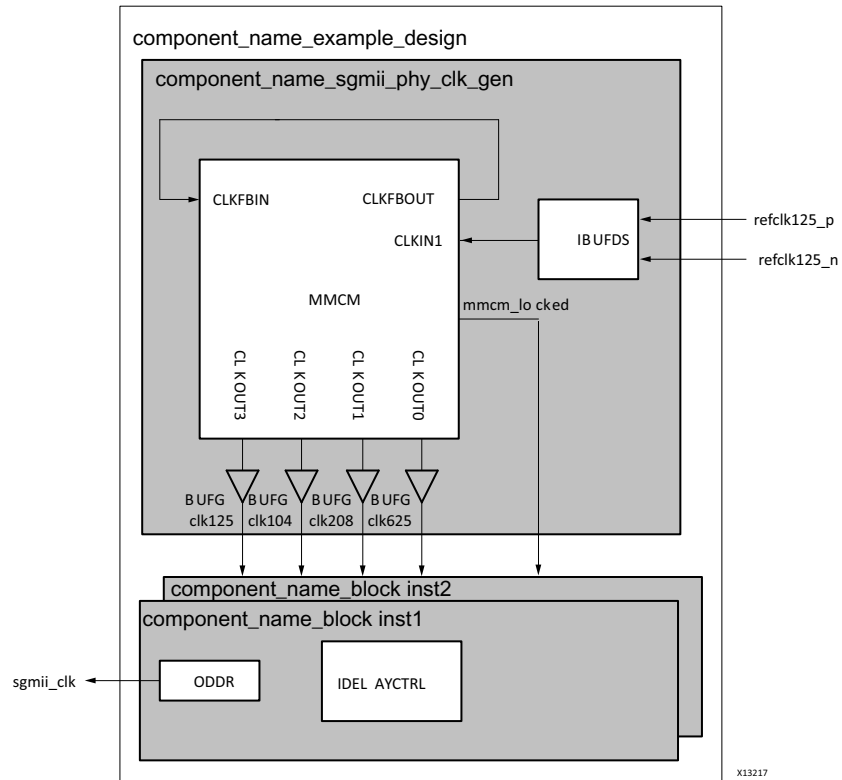
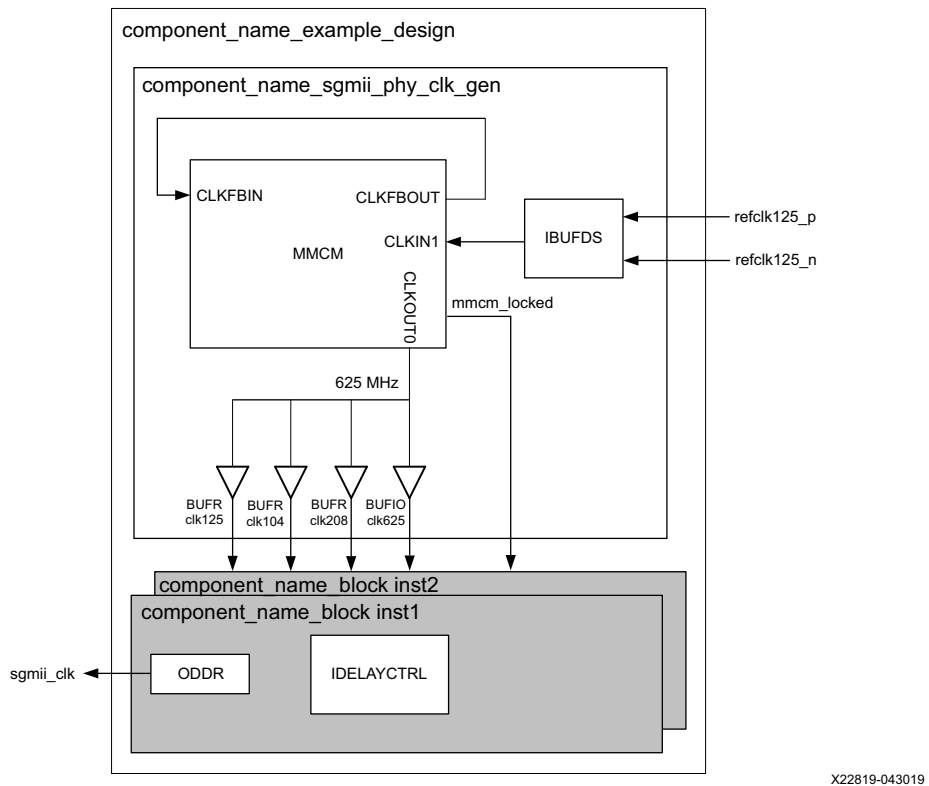

Figure 3-20: Synchronous LVDS Implementation Clocking Logic Using BUFs
Figure 3-21: Synchronous LVDS Implementation Clocking Logic Using BUFR/BUFRIO
Typical usage of synchronous LVDS solution involves multiple instances of the LVDS solution with a single clocking block. One instance of the core is generated with the **Include Shared Logic in Core** option. This instance contains all the clocking logic that can be shared. The remaining instances can be generated using the **Include Shared Logic in Example Design** option. Figure 3-20 shows the clocking logic. Table 3-3 lists the clocks in the design and their description.
Important notes relating to Figure 3-20 and Figure 3-21:
- Figure 3-21 shows that a BUFIO can be used for the 625 MHz clock and a BUFR for the other three MMCM clock outputs. BUFR DIVIDE should be used to divide the MMCM output clock down from 625 MHz for `clk125`, `clk104`, and `clk208` to keep clock skew low.
- A BUFH can also be used on all four MMCM clock outputs in Figure 3-20. IDELAYCTRL reference clock cannot be fed from the MMCM output with the BUFH if IDELAYs need to span multiple clock regions.